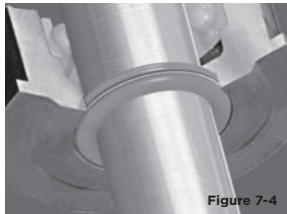

Figure 7-4
5. Install the oil seal to the oil seal position with the split in the up position (Twelve O'clock) (Figure 7-4).